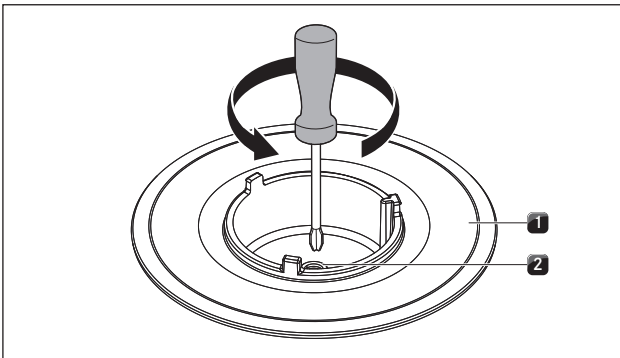

Fig. 4.46 Cooktop burner with gas burner nozzle
- ▶ Affix the nozzle set nameplates supplied in the space provided above the nozzle nameplate on the bottom of the cooktop (see fig. 4.46) and on the inside of the back cover of the operating instructions.